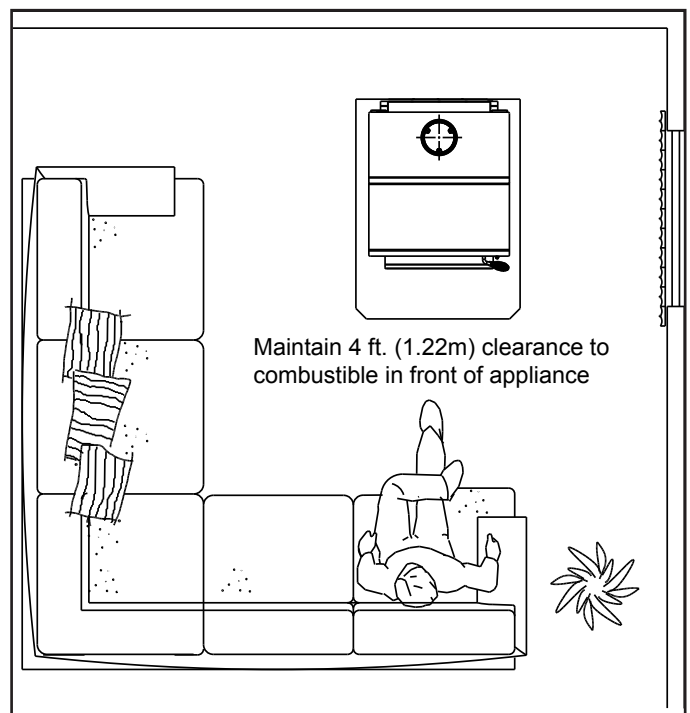

Figure 14.3
- Do NOT place combustible objects within 4 ft (1.2 m) of the front of appliance. See **Figure 14.3**.